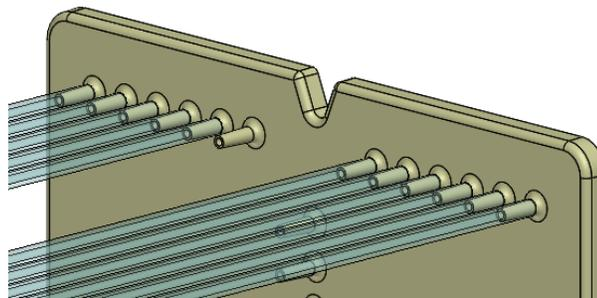

Figure 4. Input tubing connection
1. Connecting the input tubing: connect one end of the silicone tubing (see Figure 4) to the top row of the manifold. Ensure that about 5mm of tubing is inserted over the fittings. The tubing is made of silicone, which is relatively easy to pierce. **AVOID PIERCING THE TUBING BY ALL MEANS, AS THIS WILL BECOME A SOURCE OF BUBBLES AND MAY RUIN YOUR EXPERIMENT.**